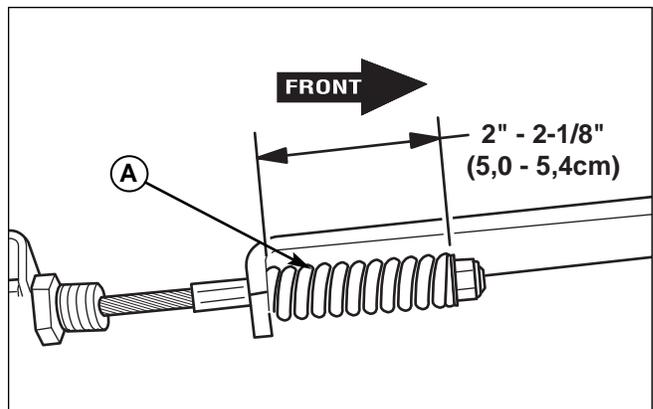

Figure 31. Parking Brake Adjustment
2. Locate the upper brake spring (A, Figure 31).